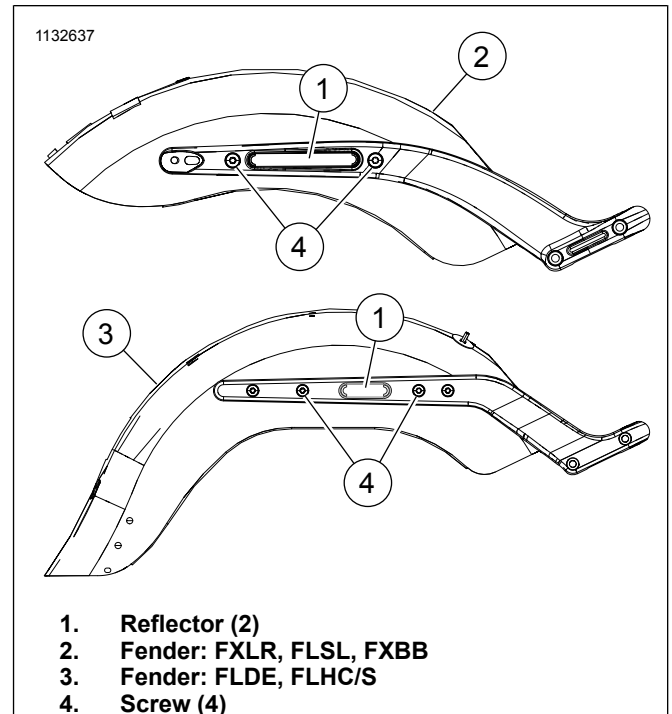

Figure 1. Fender Strut Screw
1. See Figure 1. Remove OEM reflector (1) from each side of fender strut.
2. Remove screws (4) from fender (2, 3).